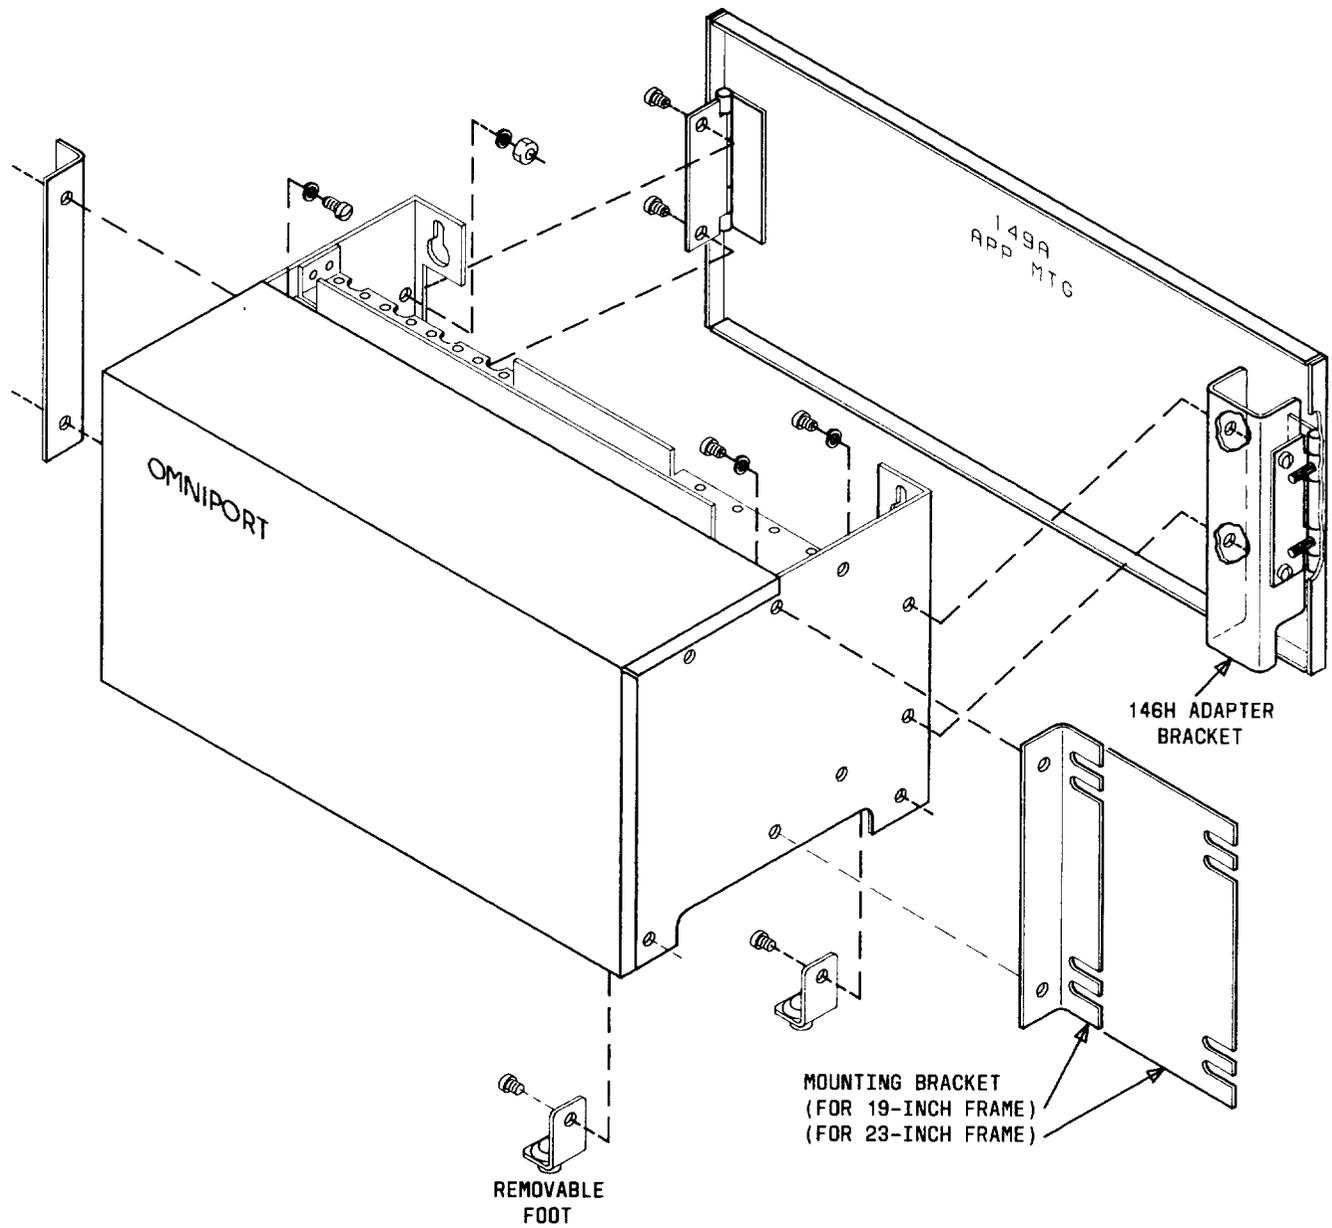

Fig. 4—146H Unit Mounting Options
- Mount a hinge-pin section to adapter bracket and mount bracket to side of mounting unit is expected to pivot on (Fig. 4).
- Install appropriate mounting brackets for mounting in 19- or 23-inch rack or cabinet as shown in Fig. 4.